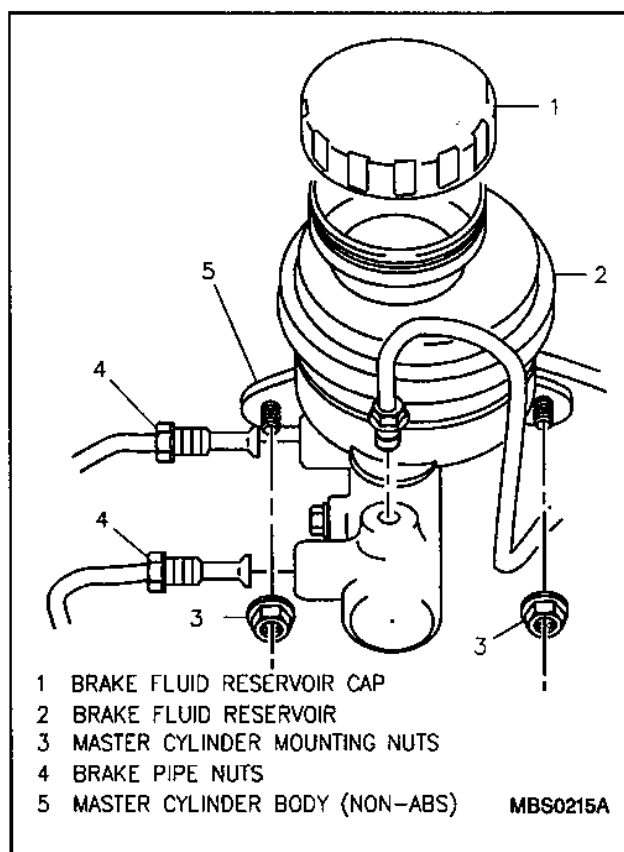

Figure 6—Master Cylinder Brake Pipes-Typical (Non-ABS Shown)
4. Three brake pipe flare nuts (two brake flare nuts on ABS-equipped vehicles) and brake pipes from master cylinder (Figure 6).
6. Two nuts and master cylinder from vehicle (Figure 6).